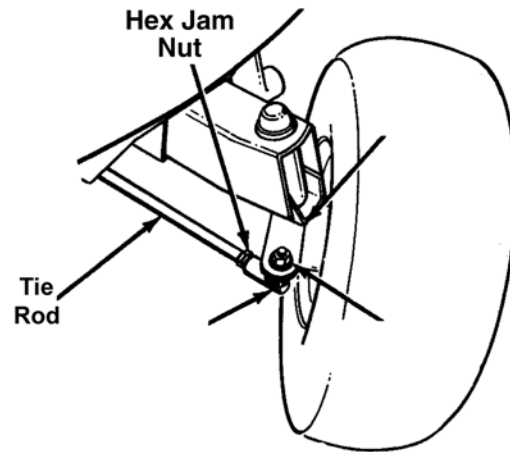

Figure 4-38. Units With Adjustable Tie Rods
3. Adjust the tie rod assembly for correct toe-in. Dimension "B" should be approximately 1/8" less than Dimension "A." See Figure 4-38.